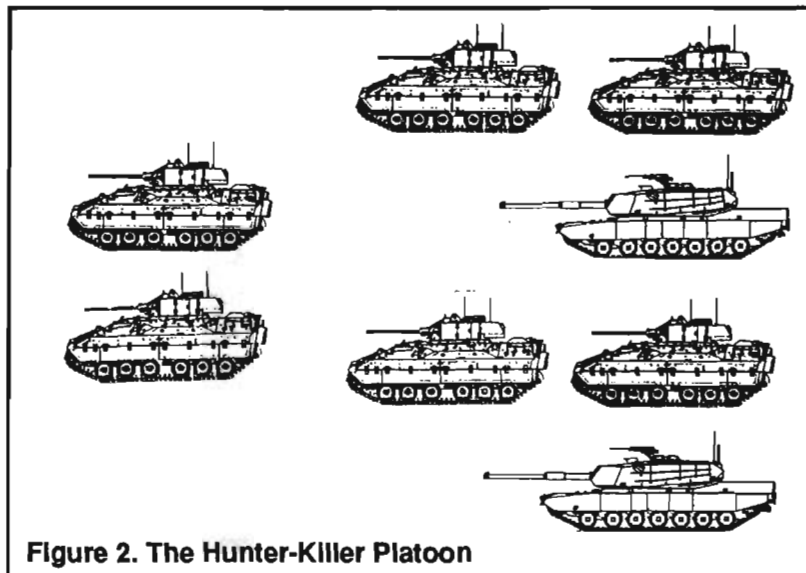

Figure 2. The Hunter-Killer Platoon
There are two ways to task organize a HK platoon. The platoon can operate with either six Bradleys and two tanks or five Bradleys and two tanks; both operate with two HK teams and a control (HQ) element (Figure 2). The HK platoon performs the same missions as a normal cavalry scout platoon.